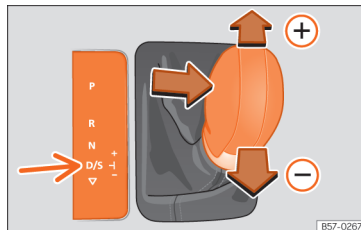

Fig. 162 Lever in the Tiptronic position
- Push the lever forwards  or backwards  to move up or down a gear **»» Fig. 162**.